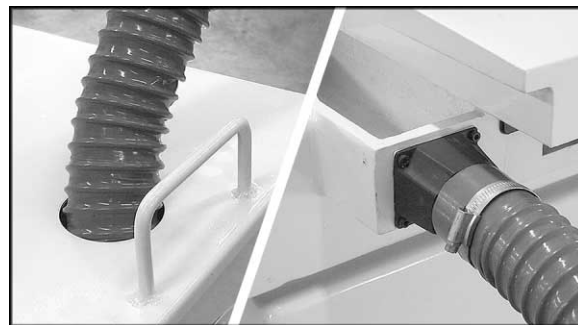

Figure 7
4. Connect the drain hose from the tank intake to the drainage port at the left bottom side of the saddle See Figure 7.